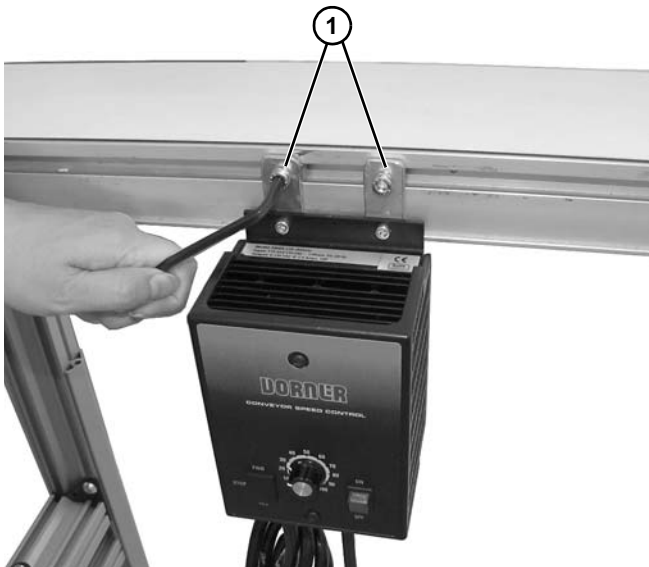

Figure 21
3. Attach controller to conveyor with two screws (Figure 21, item 1).